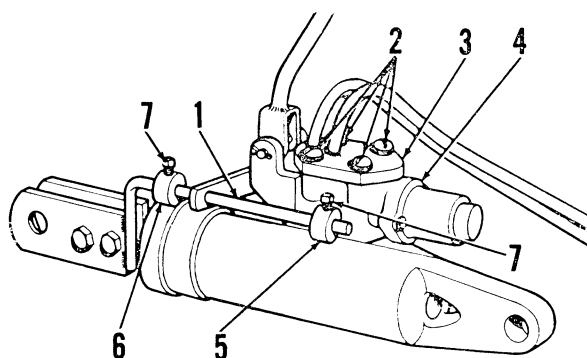

Fig. MH32—Pony hydraulic cylinder and control valve assembly.
70. Stops (5 & 6—Fig. MH32) may be adjusted to obtain the desired raised and lowered positions of the particular implement being used, by loosening the square head set screws (7) and moving the stops on rod (1). Adjust stop (6) to obtain the desired lowered position, and stop (5) to obtain the desired raised position.
71. It is recommended that hydraulic cylinder and control valve be removed from tractor as a unit so as to eliminate dirt and oil leakage which are inevitable if units are disassembled and reassembled on tractor. Remove cap drain pipe in the oil reservoir and allow reservoir to drain. Remove hydraulic lines pad (3—Fig. MH32) from the control valve. Remove the two cylinder attaching cotter keys and pins and lower cylinder and control valve (as a unit) away from tractor. Separate control valve from cylinder by removing the two control valve attaching cap screws.